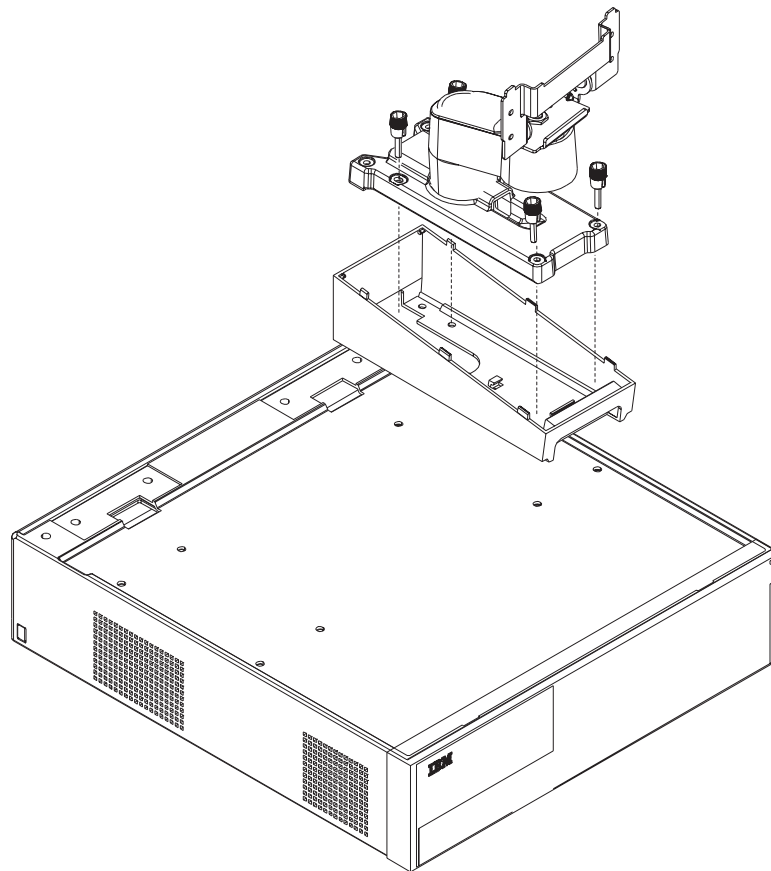

Figure 40. Securing the arm assembly to the SurePOS 720, 740, 780
4. Place the arm assembly on the system unit as shown in Figure 40. Insert and tighten the four thumb screws as shown.